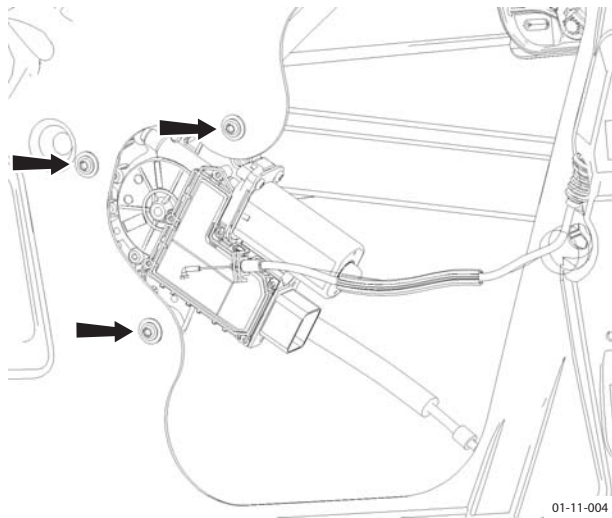

Figure 3
- Remove screws (x3) securing regulator motor to door frame (see Figure 3).